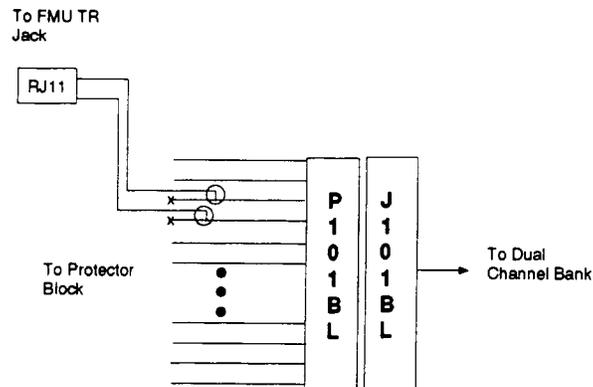

Figure 1 — ED-7C728-30 FMU Line Cable Connections
4. Use *Scotchloks*\* to connect the ED-7C728-30 cable for the FMU to orange/white pair between P101BL and the protector block (see Figure 1). Maintain the Tip/Ring polarity.